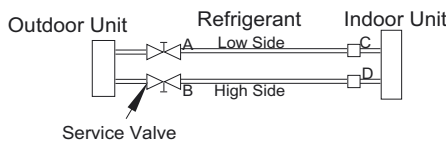

Fig. 18 - Service Valve
1. Completely tighten flare nuts A, B, C, D, connect manifold gage charge hose to a charge port of the low side service valve. (See Fig. 18.)